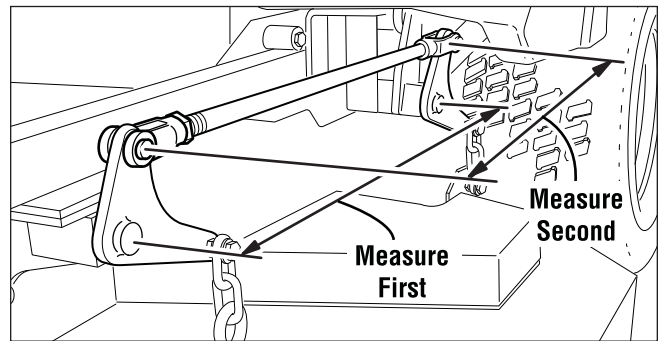

Figure 36. Check Lift Rod Timing
2. To check the lift rod timing, measure and record the distance between the lift pivots and the rod pivots. Repeat for other side of unit. See Figure 36.